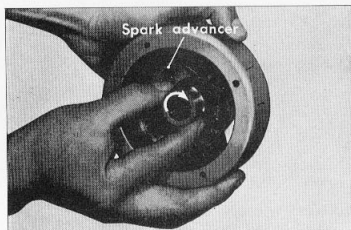

Figure 5-15. Inspecting spark advancer
- (1) The check of the spark advancer operation may be performed on the engine with a timing light. When checking a removed unit; spread the counterweights apart with the fingers and if the weights return to the normal position smoothly when released, the advancer is operating satisfactorily. (Fig. 5-15)
- (2) Check for broken spring.